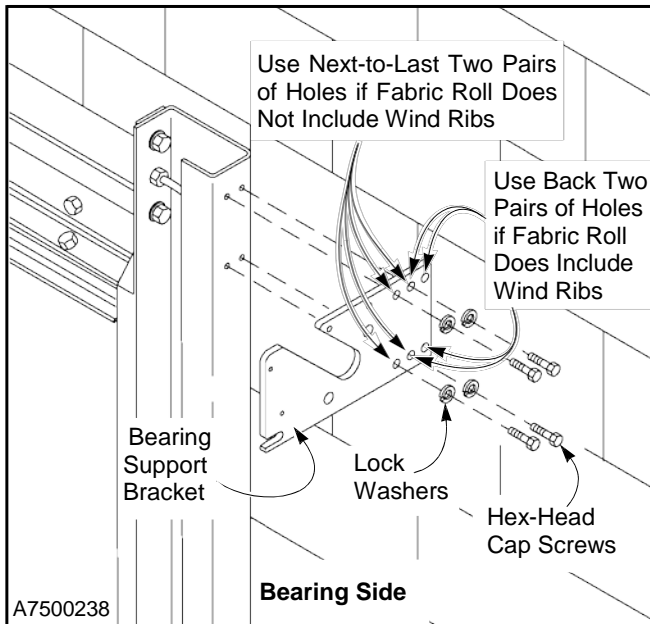

Figure 20
1. Install the bearing support bracket on the outside face of the bearing side column. This slotted bracket is held in place by four  $\frac{3}{8}$ -16 x 1-in. stainless steel hex head cap screws and lock washers. The bracket and mounting hardware are located in the small parts carton. (See Figure 20.)